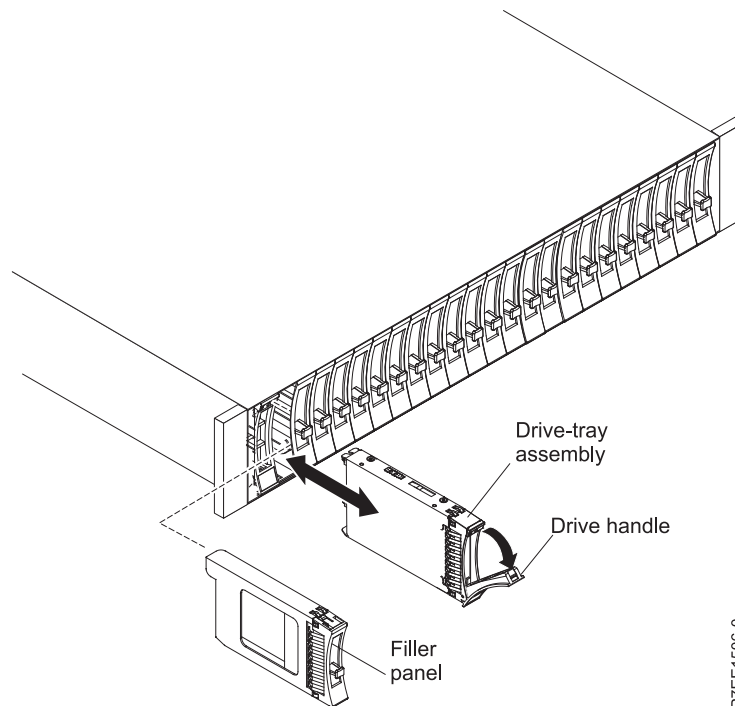

Figure 34. Removing a drive from an ESLL or ESLS storage enclosure
4. Grasp the front of the drive and pull it out from the slot, ensuring that you support the bottom of the drive, as shown in Figure 34.